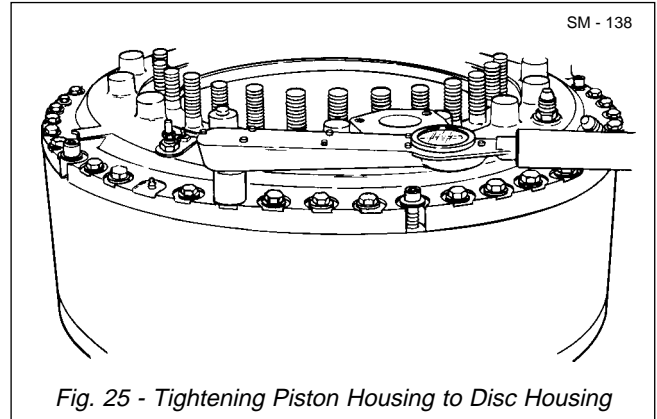

Fig. 25 - Tightening Piston Housing to Disc Housing
39. Install bolts (43) and hardened washers (42) in piston housing assembly (41). Tighten bolts (43) to a torque of 260 - 280 Nm (190 - 210 lbf ft). See Fig. 25.